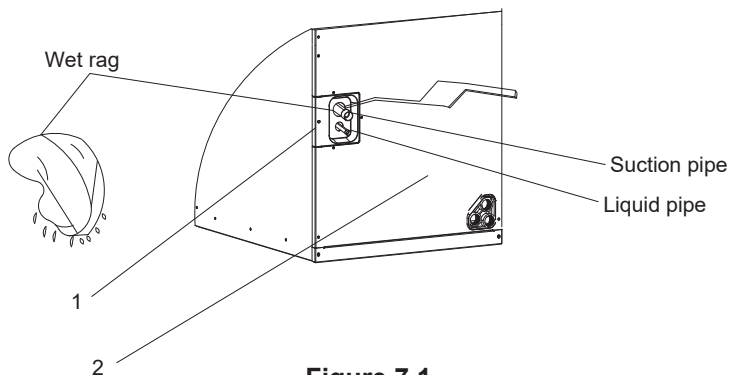

Figure 7.1.
- Before brazing, remove the metal sections 1 and 2. See Figure 7.1.
- Use a brazing shield to protect the paint of the cabinet and a wet rag to protect the rubber gasket of the pipeline from being damaged by the torch flame. During the brazing process, protect the temperature sensing bulb of TXV using a wet cloth or approved heating paste. See Figure 7.1.